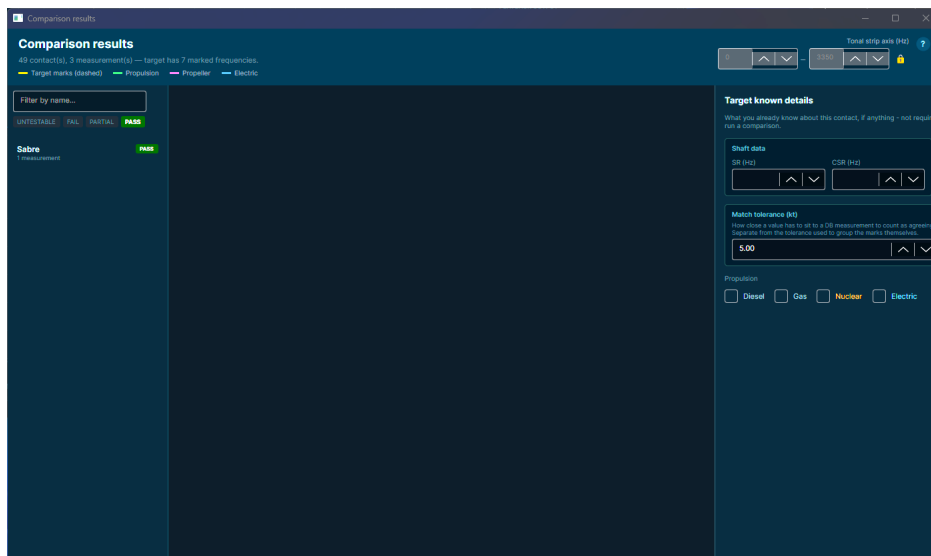

Figure 12: A Single Match
5. In an ideal situation you will end up with a single match (Figure 12 Page 20) although it is more likely that you will have more than one and several partials.